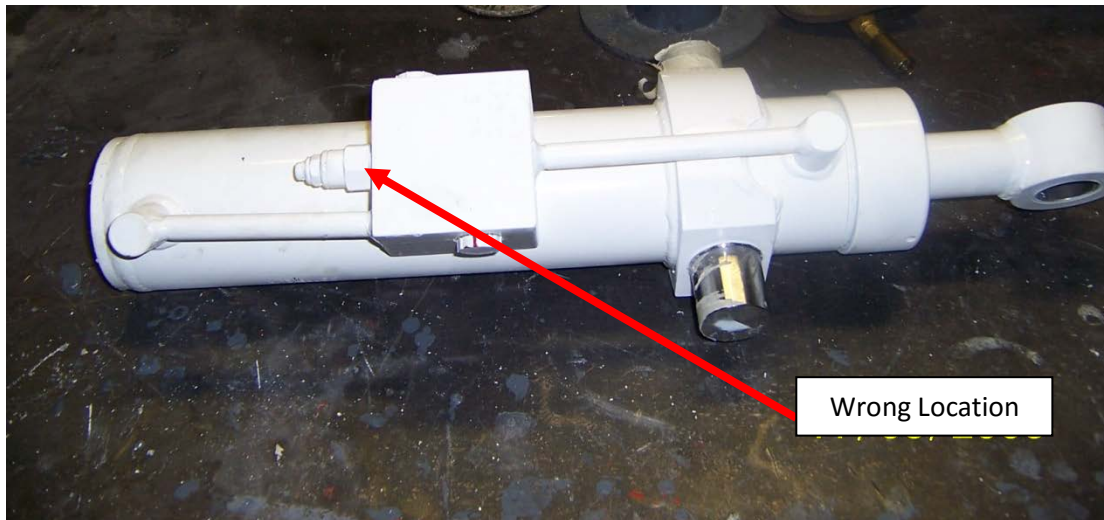

Figure 1 - **Incorrect counterbalance valve location**
**If the counterbalance cartridge is positioned as shown in figure 1, stand down the unit until a replacement cylinder is installed. Please contact GMJ Equipment for a replacement cylinder.**